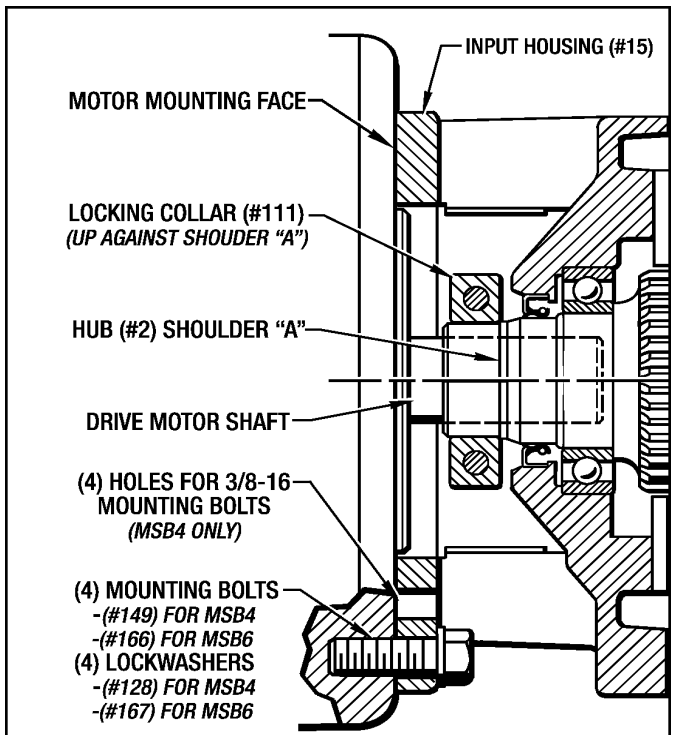

Figure 3.5 - Installing MSB4 & MSB6 Onto Drive Motor
- Push the Locking Collar (#111) back against the small shoulder "A" on the Hub (#2) as shown in *Figure 3.5*. Slide the Brake Unit onto the motor shaft as far as it will go. Align the (4) mounting holes with the motor and attach with (4) Mounting Bolts and (4) Mounting Lockwashers. Finger tighten the (4) bolts. **Make sure the brake is snug against the motor face.**